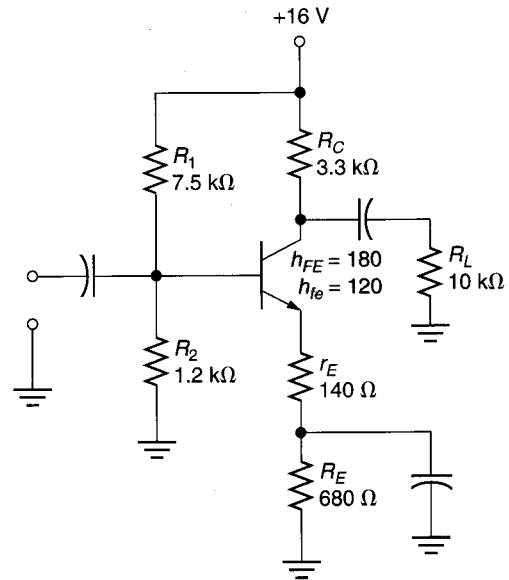

FIGURE 9.36
51. Determine the value of  $A_v$  for the amplifier in Figure 9.36.
54. Determine the values of  $Z_{in(base)}$  and  $Z_{in}$  for the amplifier shown in Figure 9.36.